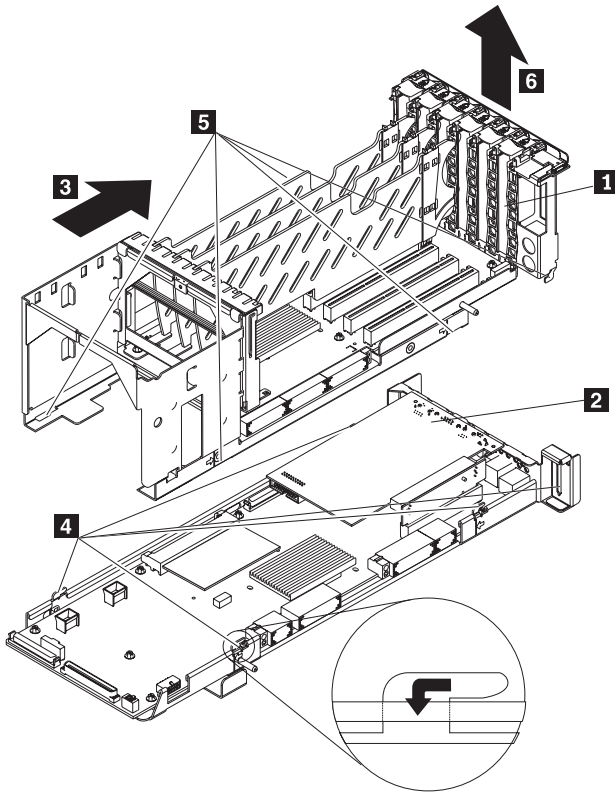

Figure 13. Removing the PCI-X assembly
- a. Position the PCI-X assembly over the I/O board assembly so that the five notches are aligned with the tabs on the I/O board assembly (see Figure 13 on page 25 for reference).